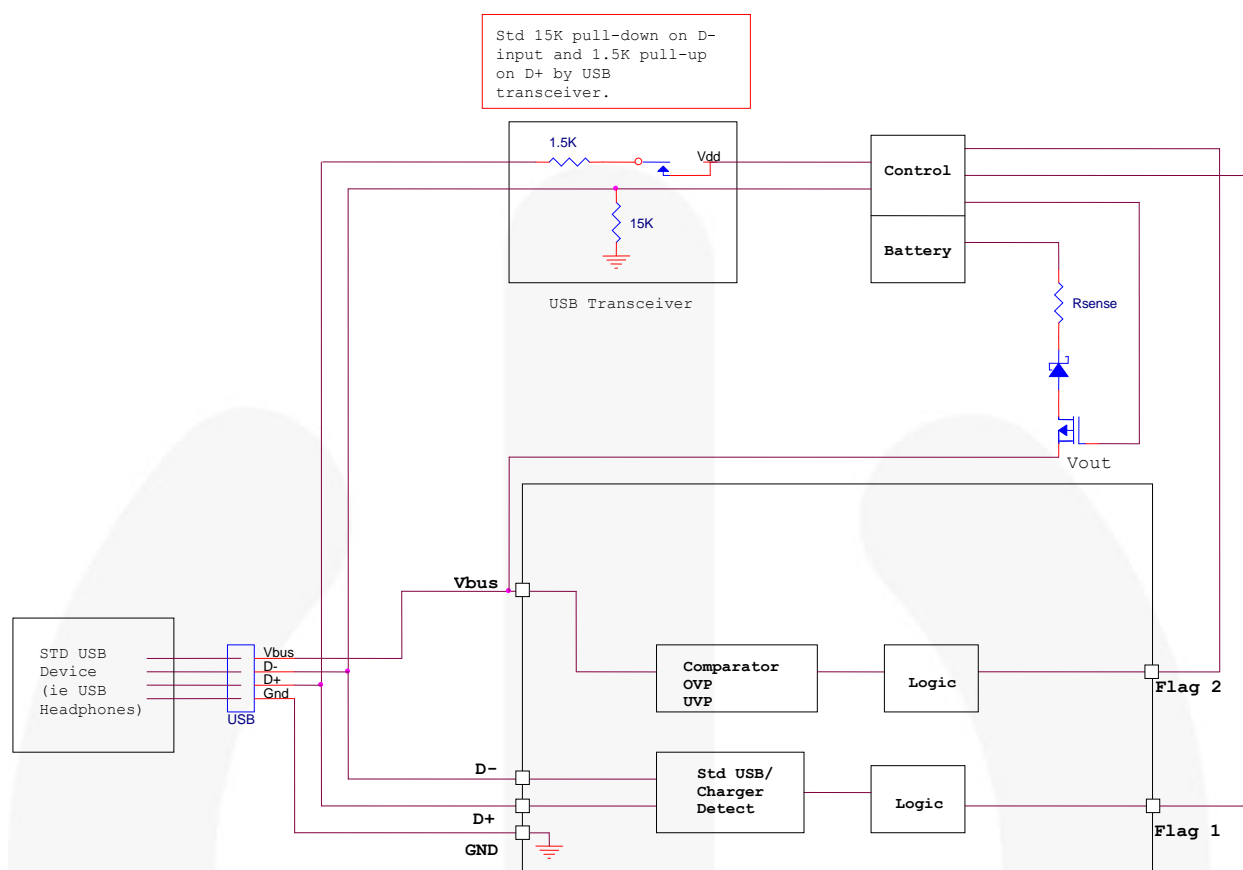

Figure 7. Typical Application System with USB Transceiver
2. See Figure 7.
### With USB Transceiver (Figure 7)